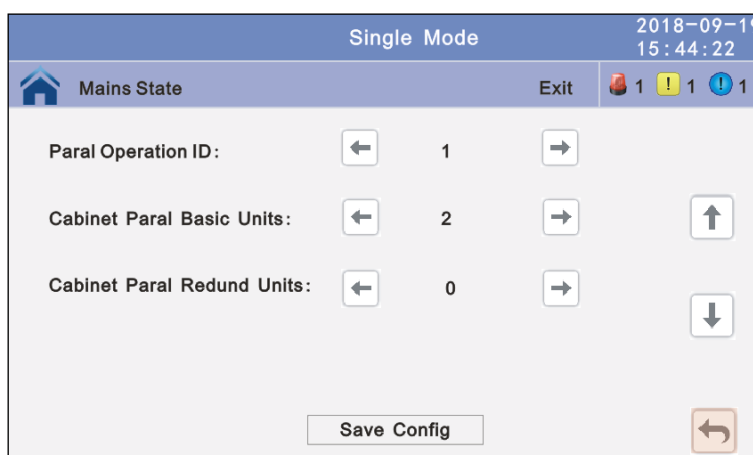

Fig. 4-31 Submenú Settings/Advanced Settings/Parallel Setting
- Submenú de Ajuste Paralelo (Fig. 4-31)